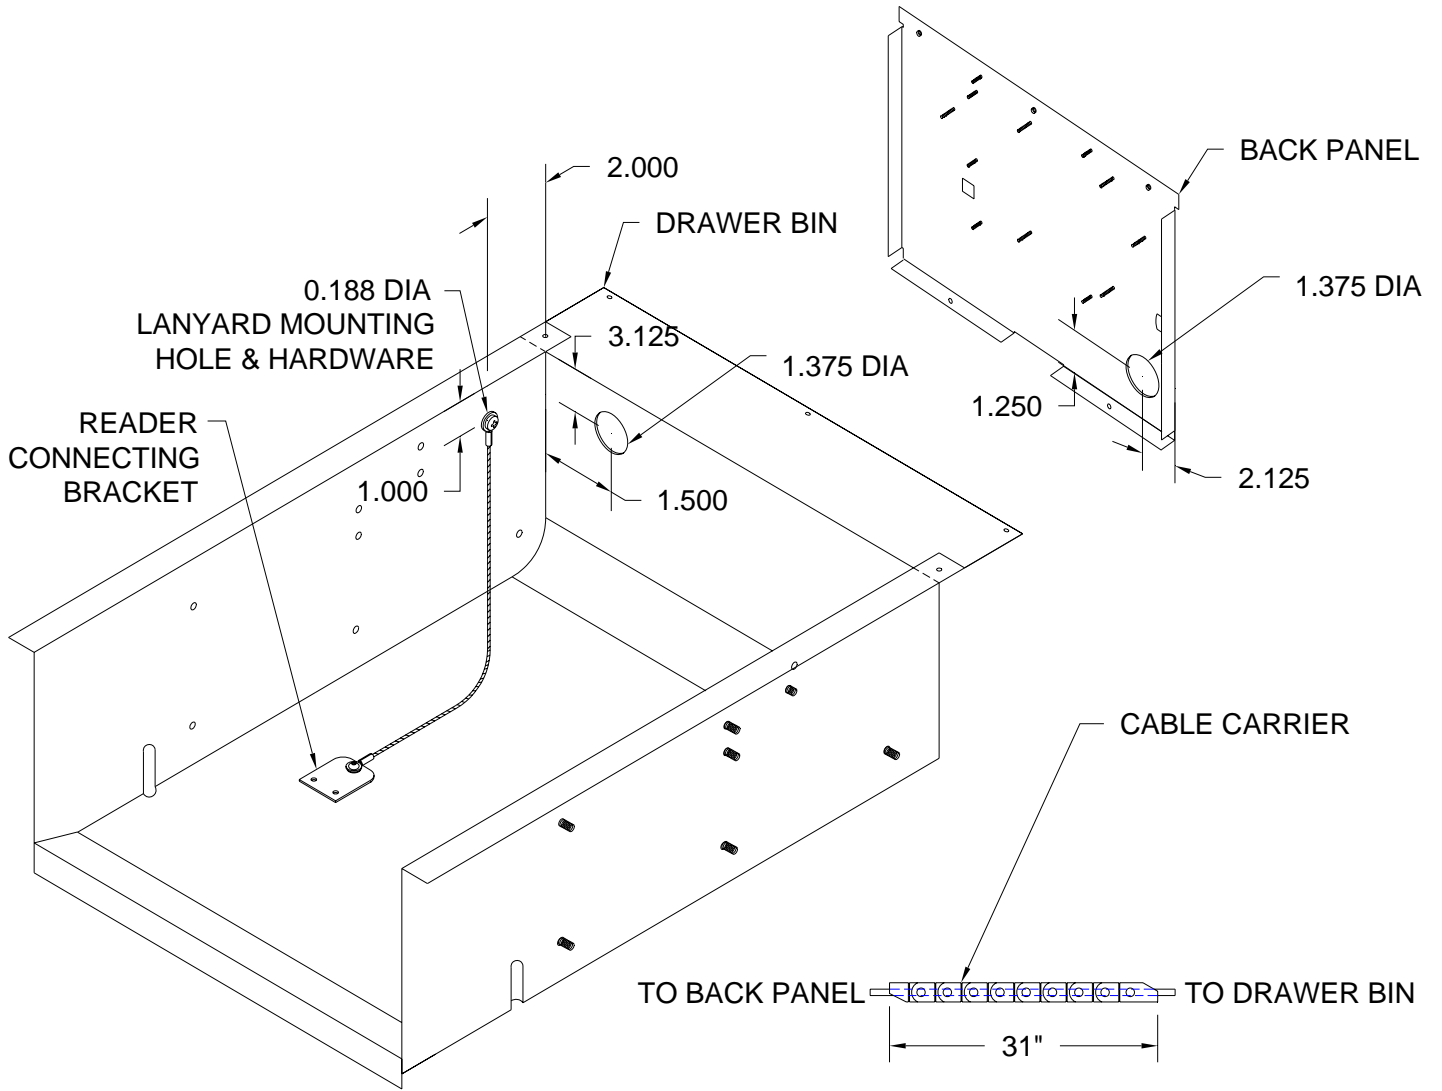

FIGURE 2
4. Mark the locations for the 3/16" (0.188") and 1 3/8" (1.375") diameter holes in the lower corner of the back panel and the upper corner of the red drawer bin (Figure 2).
10. Remove the snap cable carrier zipper, from the cable carrier (Figure 2).
21. Install the other end of the lanyard to the credit card reader with the connecting bracket (Figure 2).